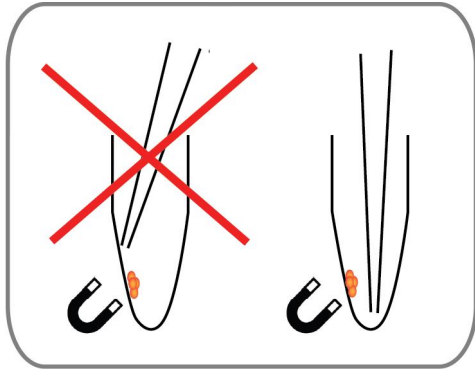

Figure 10. Bead pellet
- F. While keeping the tube on the magnetic rack, carefully remove and discard the solution. **Note! It is important to avoid touching the bead pellet during this step (see figure 10)**
- J. Carefully remove as much **Wash** solution as possible by pipetting from the bottom of the tube. **Note! It is important to avoid touching the bead pellet and the walls of the tube during this step (see figure 10)**